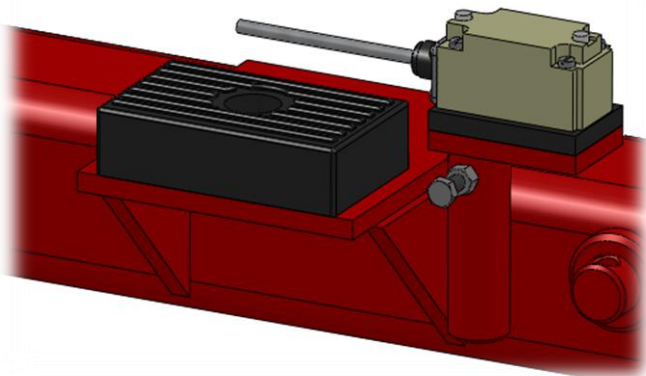

Figure 3.2.2-Electrical limit switch adjusting tube
2. Loosen the adjusting tube bolt and locknut. See figure 3.2.2.